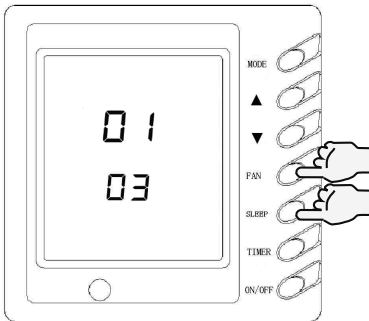

Fig.20
Under the off state of unit, press the FAN and SLEEP /SWING buttons at the same time for 5s into setting interface, as shown in Fig.20."01" is displayed in ambient temp displaying area and setting mode code is displayed in temp displaying area which can be adjusted by pressing ▲ or ▼. There are 4 kinds of selections:
C. Under heating mode, select wired controller's temp sensor or under other modes select air inlet's temp sensor and the setting temp area displays 03, as shown in Fig.20.